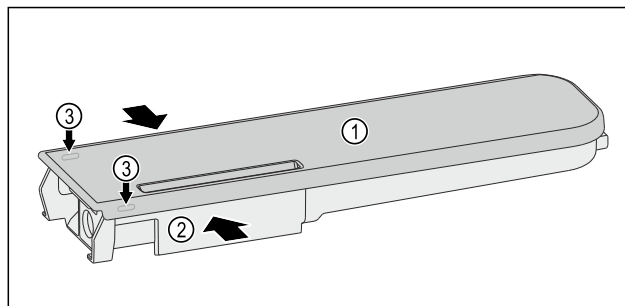

Fig. 130
- ▶ Push the water tanks Fig. 130 (2) together, leverage the cover Fig. 130 (1) carefully over the latching tabs Fig. 130 (3) and lift it up.
- ▶ Move the cover Fig. 130 (1) slightly forwards and back, and remove to the top.